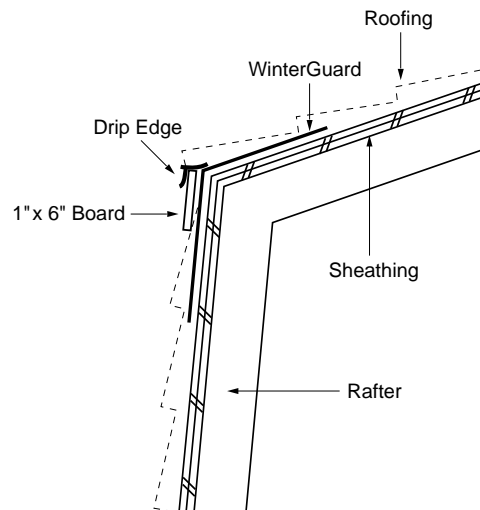

Figure 6-24
- DRIP EDGE OR GUTTER:** Apply shingles on the lower roof plane up to the joint and cut off excess shingle material flush to the deck joint. Apply a waterproof type underlayment, such as WinterGuard™, over the joint in the deck planes to help provide a waterproof barrier. The waterproofing underlayment should be applied directly to the upper deck plane and overlap the shingles on the lower deck plane by about 5". Install a 1" x 6" painted fascia board, (the waterproofing underlayment must be totally covered by the fascia board), at the very top of the lower roof and then install either drip edge or gutter onto the fascia. Apply shingles to the upper plane per standard application technique, letting the starter and first course shingles over hang the drip edge or gutter about ½" to ¾". Refer to Figure 6-24 below.